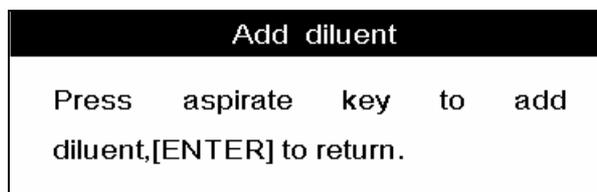

Figure 9-3 An “Add diluent” message box
2. Press [DILUENT] and a message box will pop up to instruct you how to dispense the diluent into the sample tube, as Figure 9-3 shows;